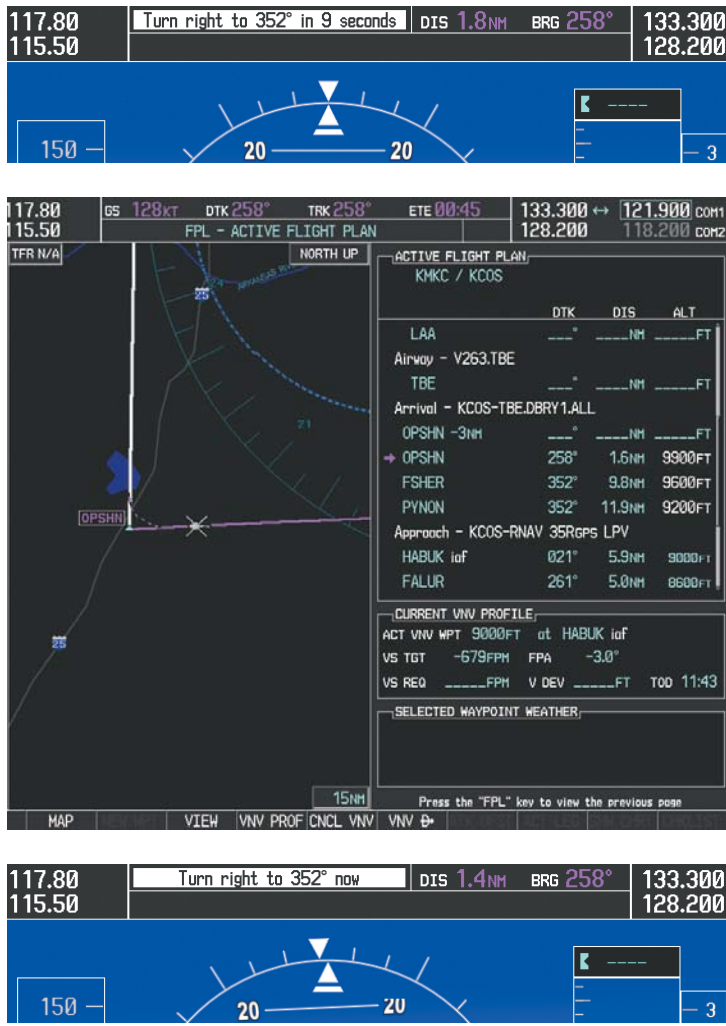

Figure 5-135 Turn to intercept OPSHN to FSHER Leg
18) The aircraft is approaching OPSHN. The upcoming turn and next heading are annunciated at the top left of the PFD as seen in Figure 5-135. Initiate the turn and maneuver the aircraft on a track through the turn radius to intercept the magenta line for the OPSHN to FSHER leg and center the CDI.